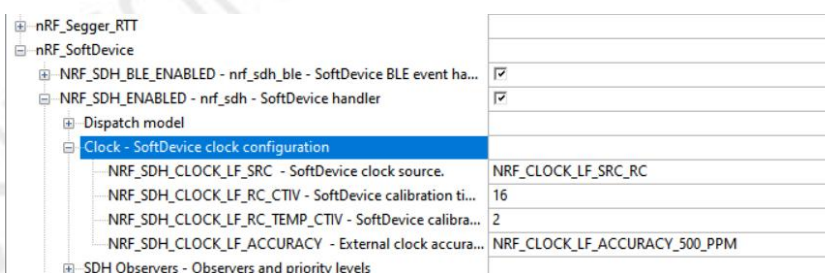

Figure 5.3: NRF_SDH_ENABLED
- Unfold"nRF_SoftDevice"->"NRF_SDH_ENABLED"->"Clock - SoftDevice clock configuration"Please modify as shown in Figure 5.3: